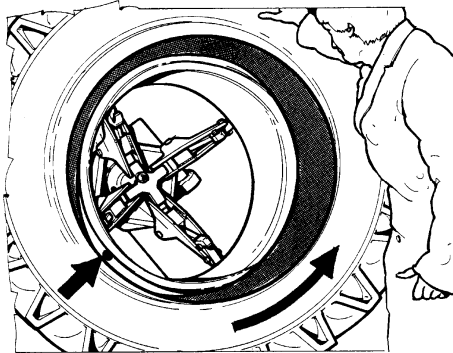

Fig.49
10. Place the hook tool as in Fig.49.